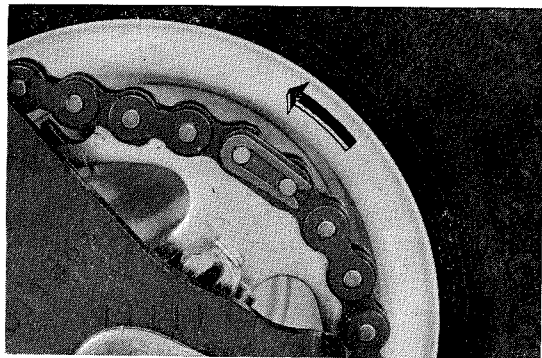

Fig. 21 Chain joint clip
- 3) When connecting the drive chain, make sure that the chain joint clip is properly installed. (Fig. 21)